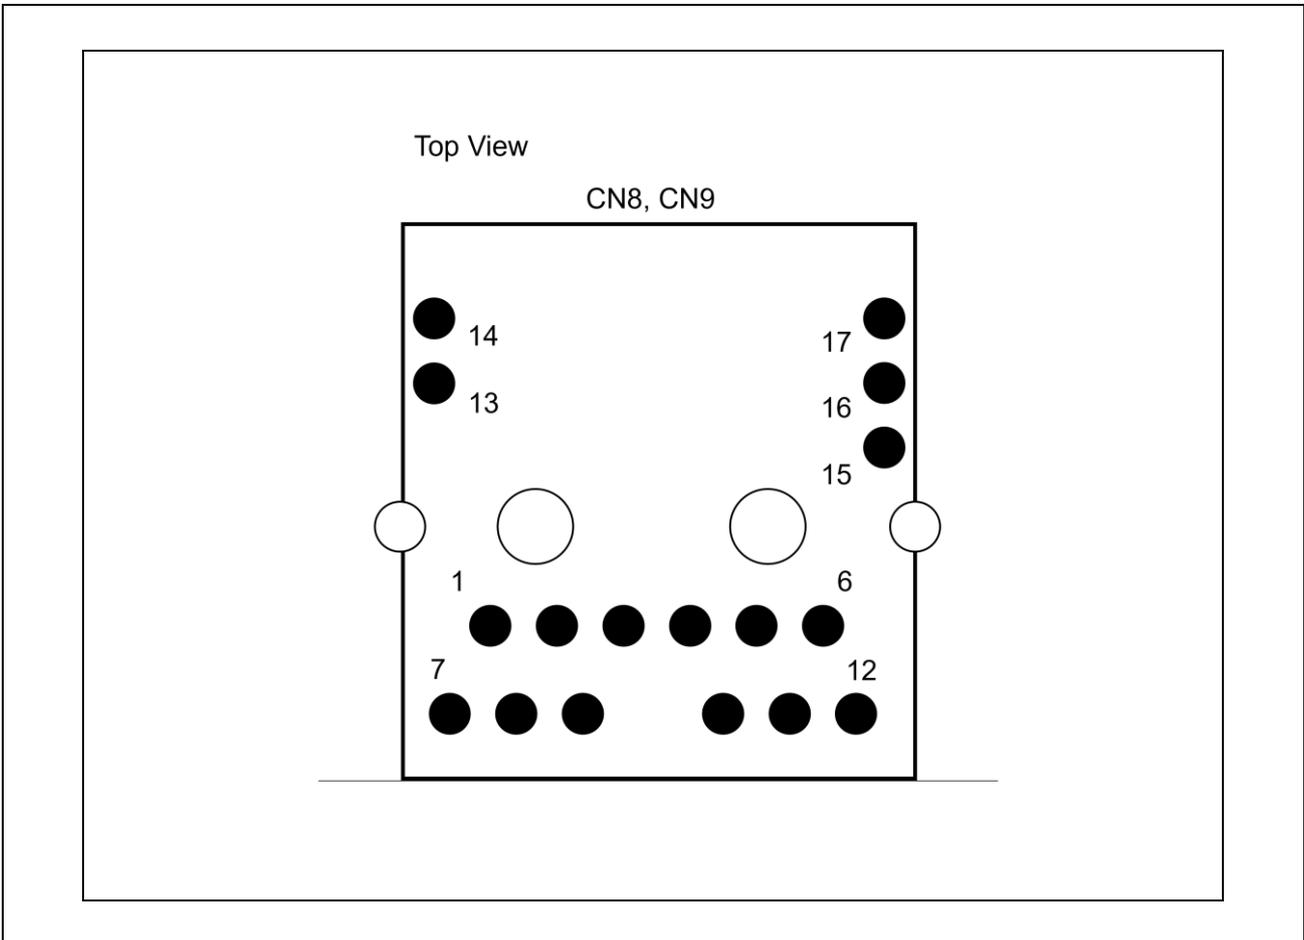

Figure 3.7 LAN Connector (CN8, CN9) Pin Layout Diagram
**Figure 3.7** illustrates the layout of LAN0/1 Connector pins. **Table 3.7** shows the assignment of LAN0 Connector pins.